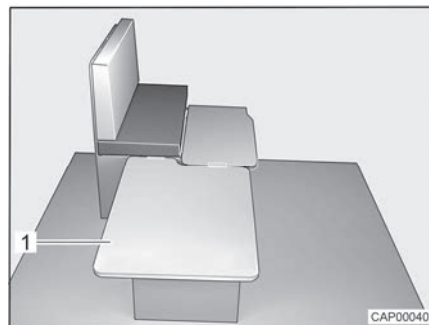

Fig. 43 During conversion
- Hook removable board (Fig. 43,1) in on the side of the bench and place it on the table.